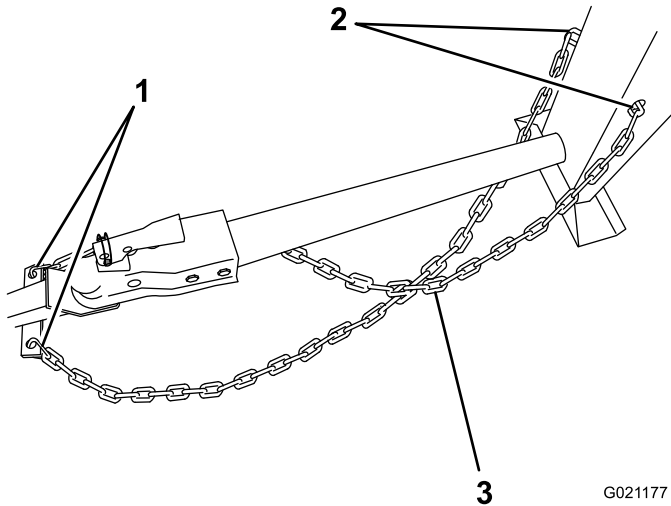

Figure 19
1. Pull the safety chain through the slots in the keyholes located in the front post of the machine, so that there is just enough slack on each side for turning around corners when towing the machine (Figure 19).